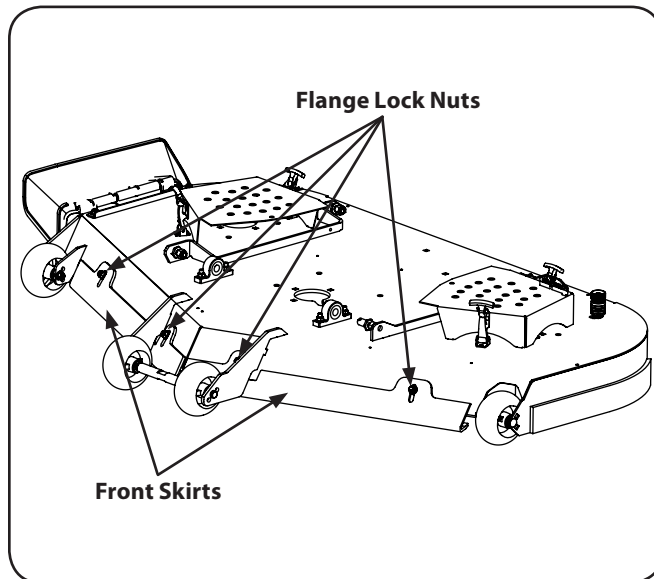

Figure 6-10
1. Loosen — but do not remove — the nuts securing the skirt, place in the proper position and then retighten the nut. See Fig. 6-10.